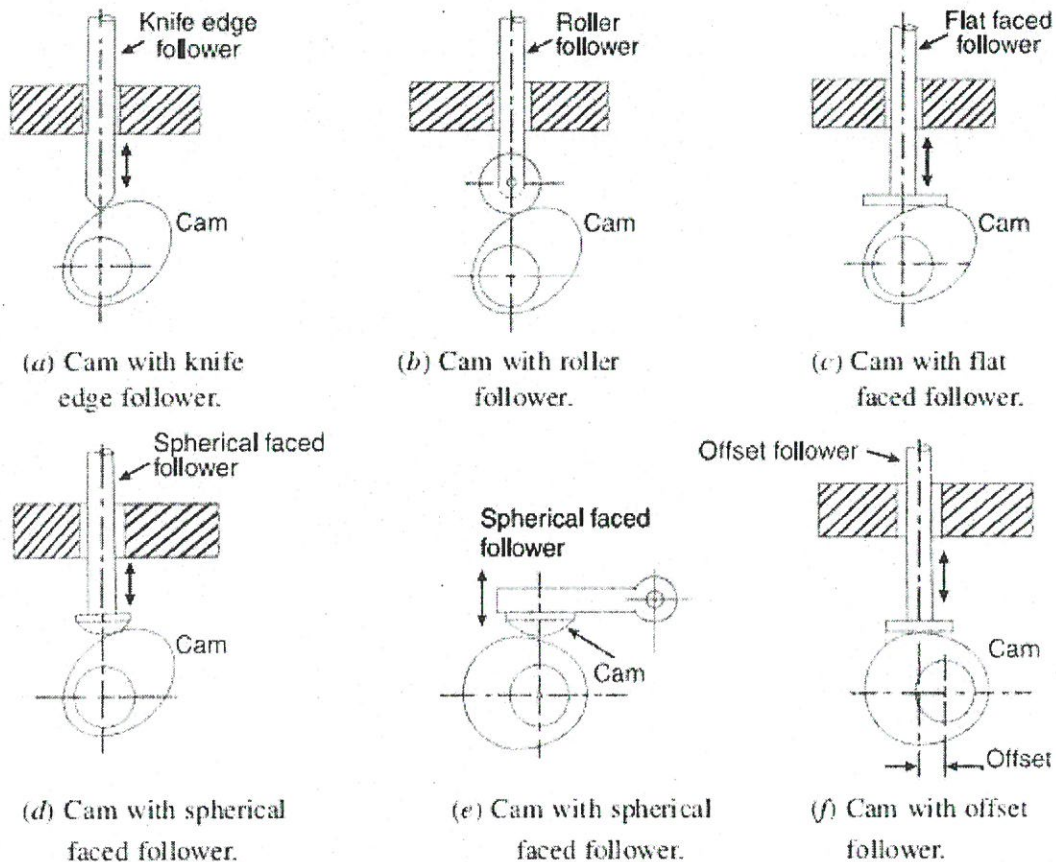

Fig. 20.1. Classification of followers.
1. *Radial or disc cam.* In radial cams, the follower reciprocates or oscillates in a direction perpendicular to the cam axis. The cams as shown in Fig. 20.1 are all radial cams.
- (a) *Knife edge follower.* When the contacting end of the follower has a sharp knife edge, it is called a knife edge follower, as shown in Fig. 20.1 (a). The sliding motion takes place between the contacting surfaces (*i.e.* the knife edge and the cam surface). It is seldom used in practice because the small area of contacting surface results in excessive wear. In knife edge followers, a considerable side thrust exists between the follower and the guide.
- (b) *Roller follower.* When the contacting end of the follower is a roller, it is called a roller follower, as shown in Fig. 20.1 (b). Since the rolling motion takes place between the contacting surfaces (*i.e.* the roller and the cam), therefore the rate of wear is greatly reduced. In roller followers also the side thrust exists between the follower and the guide. The roller followers are extensively used where more space is available such as in stationary gas and oil engines and aircraft engines.
- (c) *Flat faced or mushroom follower.* When the contacting end of the follower is a perfectly flat face, it is called a flat-faced follower, as shown in Fig. 20.1 (c). It may be noted that the side thrust between the follower and the guide is much reduced in case of flat faced followers. The only side thrust is due to friction between the contact surfaces of the follower and the cam. The relative motion between these surfaces is largely of sliding nature but wear may be reduced by off-setting the axis of the follower, as shown in Fig. 20.1 (f) so that when the cam rotates, the follower also rotates about its own axis. The flat faced followers are generally used where space is limited such as in cams which operate the valves of automobile engines.
- (d) **Spherical faced follower.** When the contacting end of the follower is of spherical shape, it is called a spherical faced follower, as shown in Fig. 20.1 (d). It may be noted that when a flat-faced follower is used in automobile engines, high surface stresses are produced. In order to minimise these stresses, the flat end of the follower is machined to a spherical shape.
- (a) **Reciprocating or translating follower.** When the follower reciprocates in guides as the cam rotates uniformly, it is known as reciprocating or translating follower. The followers as shown in Fig. 20.1 (a) to (d) are all reciprocating or translating followers.
- (b) **Oscillating or rotating follower.** When the uniform rotary motion of the cam is converted into predetermined oscillatory motion of the follower, it is called oscillating or rotating follower. The follower, as shown in Fig 20.1 (e), is an oscillating or rotating follower.
- (a) **Radial follower.** When the motion of the follower is along an axis passing through the centre of the cam, it is known as radial follower. The followers, as shown in Fig. 20.1 (a) to (e), are all radial followers.
- (b) **Off-set follower.** When the motion of the follower is along an axis away from the axis of the cam centre, it is called off-set follower. The follower, as shown in Fig. 20.1 (f), is an off-set follower.